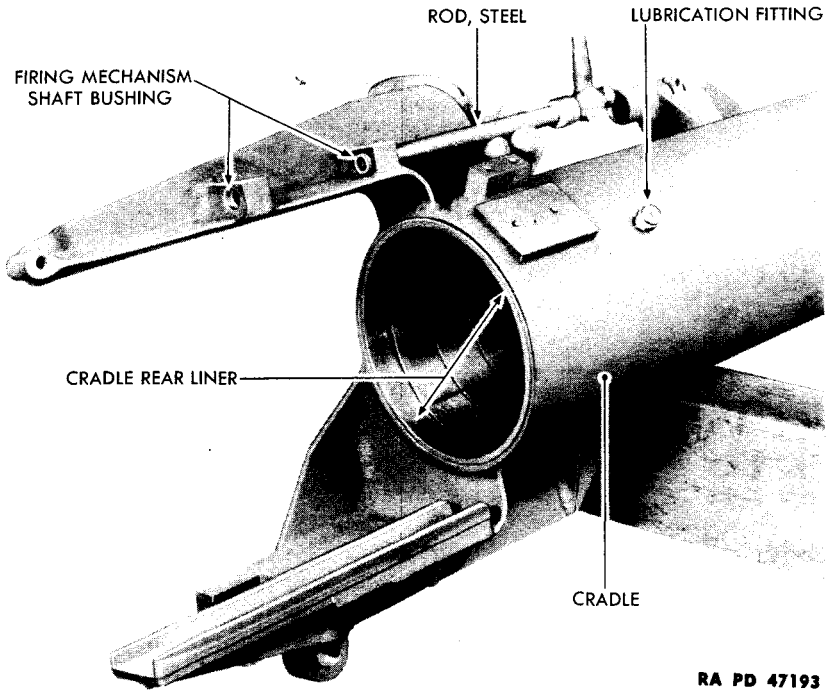

Figure 95 – Driving Out Firing Mechanism Shaft Bushing
d. Remove Firing Mechanism Shaft Bushings from Cradle. It is necessary to use an improvised tool to drive firing mechanism shaft bushings from cradle (fig. 95). A steel rod $\frac{9}{16}$ by 7 inches,